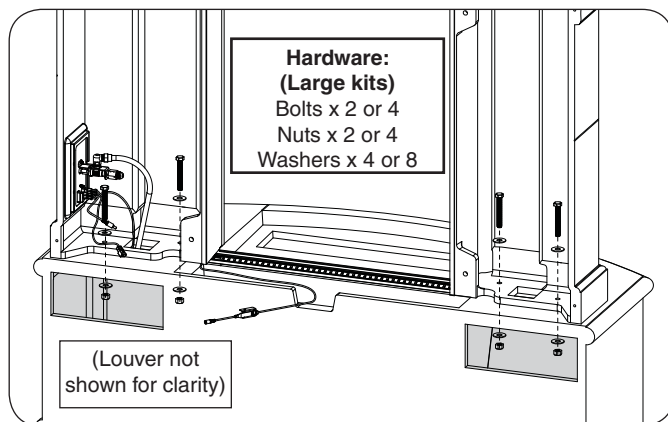

Fig. 20-2 Fasten top
8. Insert the hardware (large hardware kits) in the order shown in Fig. 20-2. Hand tighten, then use two  $\frac{3}{4}$ " open end wrenches (or equivalent) to fasten.